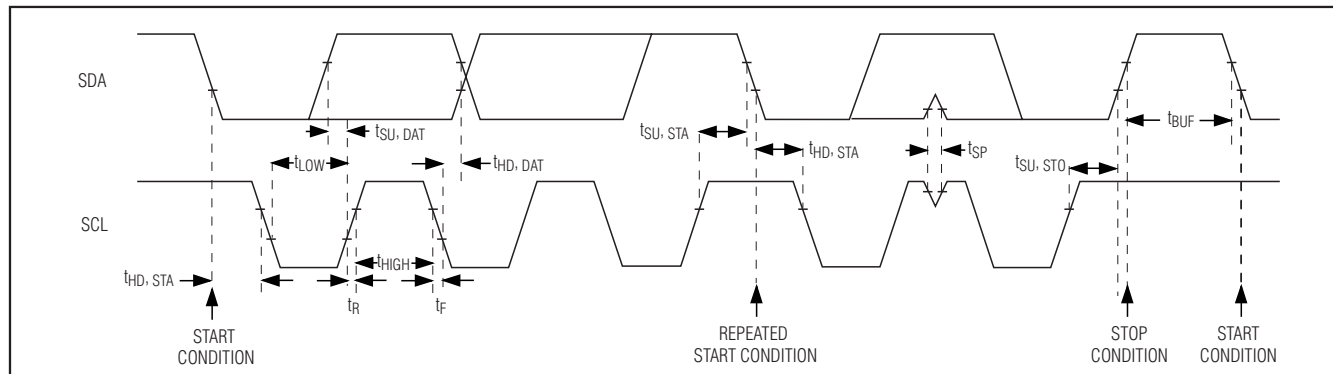

Figure 9. I²C Serial Interface Timing Diagram
The MAX9526 features an I2C/SMBus™-compatible, 2-wire serial interface consisting of a serial-data line (SDA) and a serial-clock line (SCL). SDA and SCL facilitate communication between the MAX9526 and the master at clock rates up to 400kHz. Figure 9 shows the 2-wire interface timing diagram. The master generates SCL and initiates data transfer on the bus. The master device writes data to the MAX9526 by transmitting the proper slave address followed by the register address and then the data word. Each transmit sequence is framed by a START (S) or REPEATED START (Sr) condition and a STOP (P) condition. Each word transmitted to the MAX9526 is 8 bits long and is followed by an acknowledge clock pulse. A master reading data from the MAX9526 transmits the proper slave address followed by a series of nine SCL pulses. The MAX9526 transmits data on SDA in sync with the master-generated SCL pulses. The master acknowledges receipt of each byte of data. Each read sequence is framed by a START or REPEATED START condition, a not acknowledge, and a STOP condition. SDA operates as both an input and an open-drain output. A pullup resistor, typically greater than 500 $\Omega$ , is required on SDA. SCL operates only as an input. A pullup resistor, typically greater than 500 $\Omega$ , is required on SCL if there are multiple masters on the bus, or if the single master has an open-drain SCL output. Series resistors in line with SDA and SCL are optional. Series resistors protect the digital inputs of the MAX9526 from high-voltage spikes on the bus lines, as well as minimize crosstalk and undershoot of the bus signals.